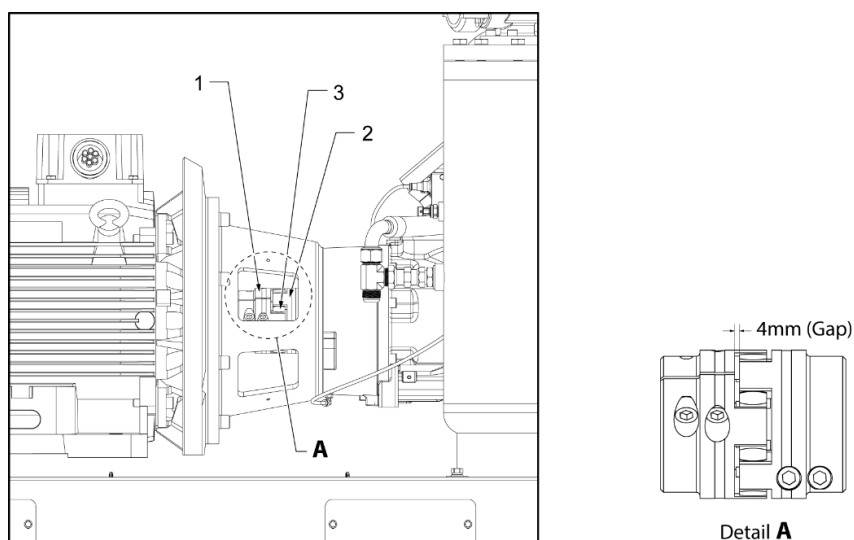

Figure 2-10 Drive Coupling Spider
- Loosen the set screw from the motor coupling (-1- Fig. 2-10).
- Slide the hub apart. Maneuver the drive coupling spider (-3- Fig. 2-10) out of the connecting housing.